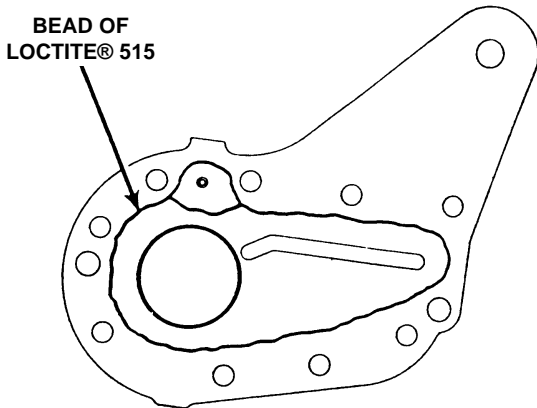

FIGURE 4.8-2 SEAL HOUSING (20-25 HP)
22. Place a thin bead of Loctite® 515 on the machined surface of the seal housing as shown in Figure 4.8-2. Do not over apply.